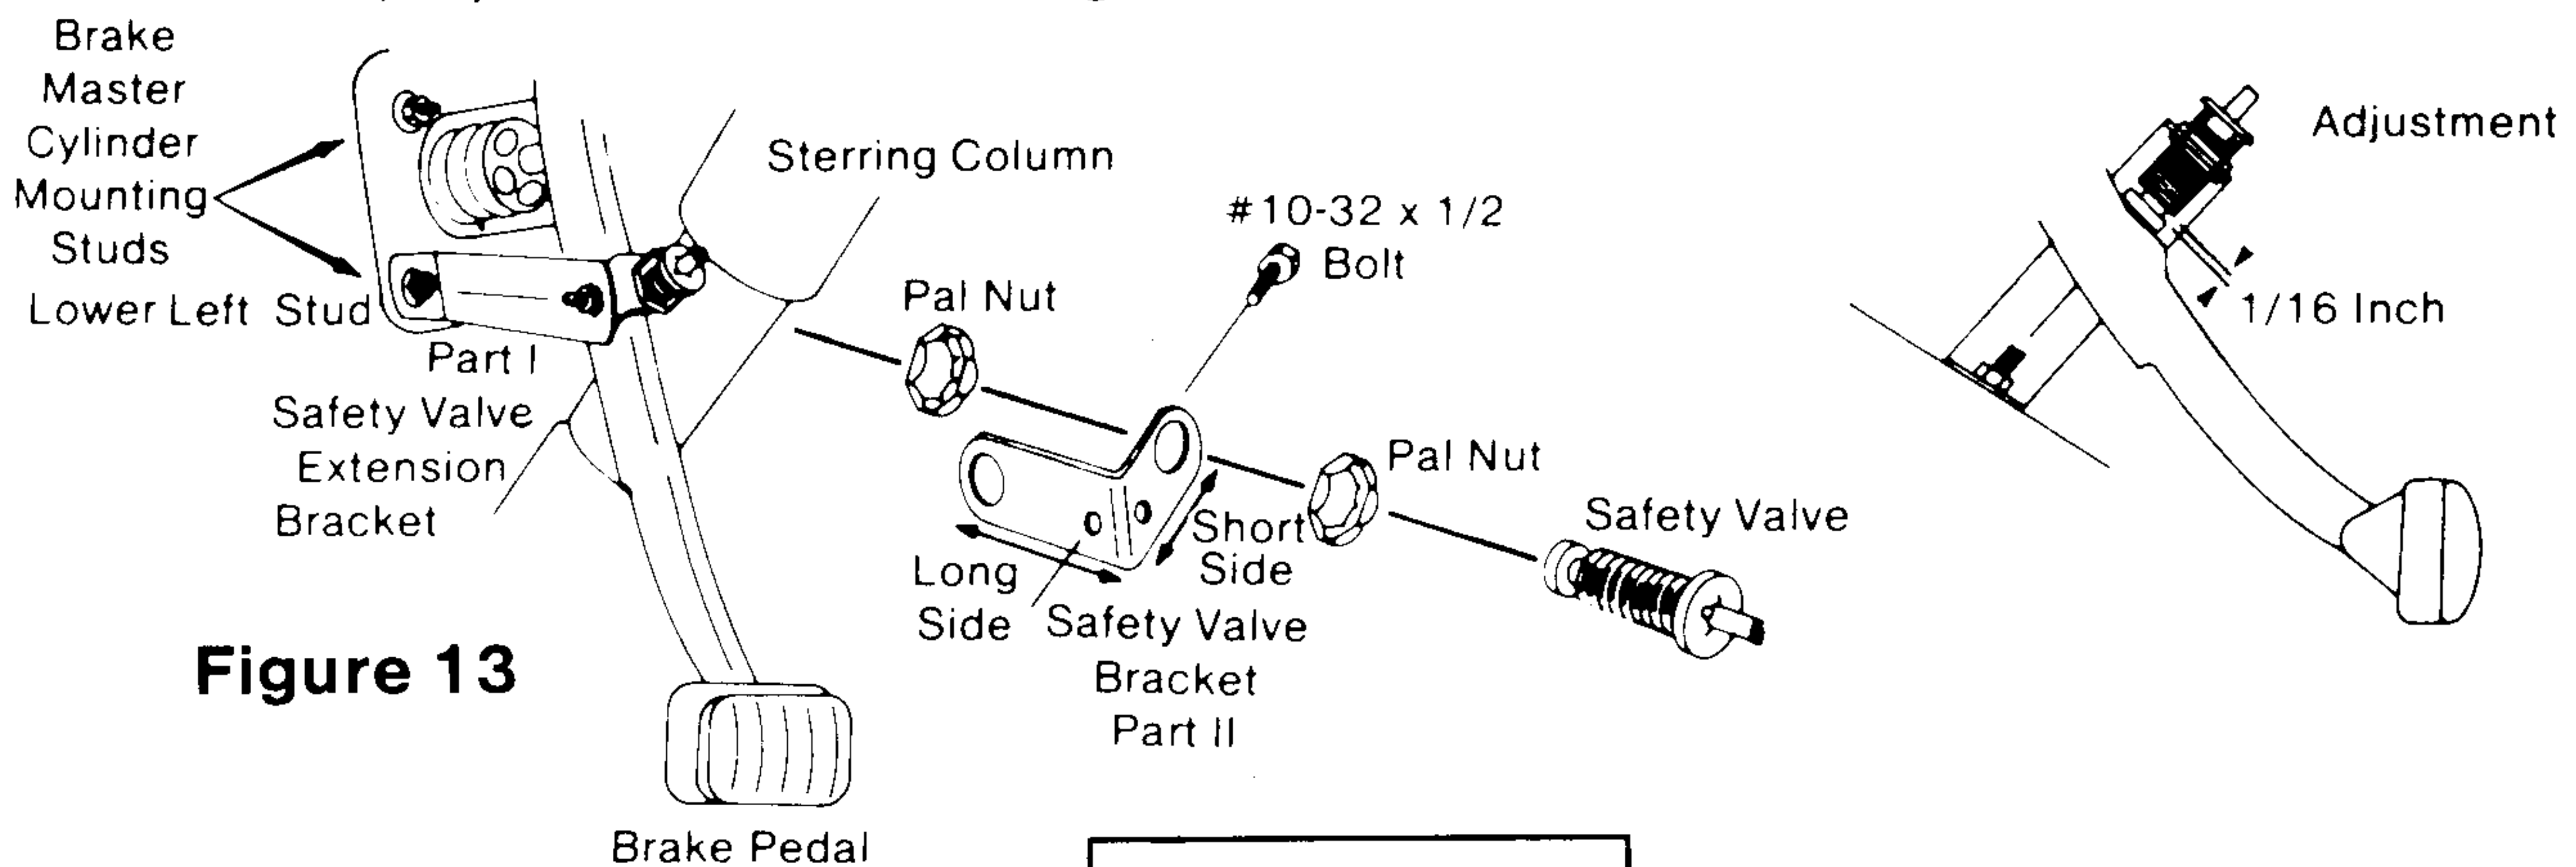

Figure 13
15. Mount the brake safety vacuum drum valve bracket extension PART I, to the brake master cylinder support bracket stud located directly below the brake pedal on the firewall. **FIGURE 13.** Remove nut from stud and install PART I bracket, replace nut and hand tighten only.
16. a. Center the safety valve on the brake pedal arm by rotating PART I left or right. Adjust valve depth to pedal arm by screwing valve in or out or by sliding PART II up or down in slot if further adjustment is needed. PART II valve bracket should be positioned so angle of valve is slanted the same as the brake pedal arm. Valve plunger should be flush up against pedal arm and fully depressed without pressing brake. Once all adjustments are completed, tighten PART I mounting nut and PART II stud nut firmly. Check operation. **NOTE:** Safety valve plunger should be fully depressed by pedal arm, leaving approximately 1/16 inch between valve cab and valve housing. See **FIGURE 13.**